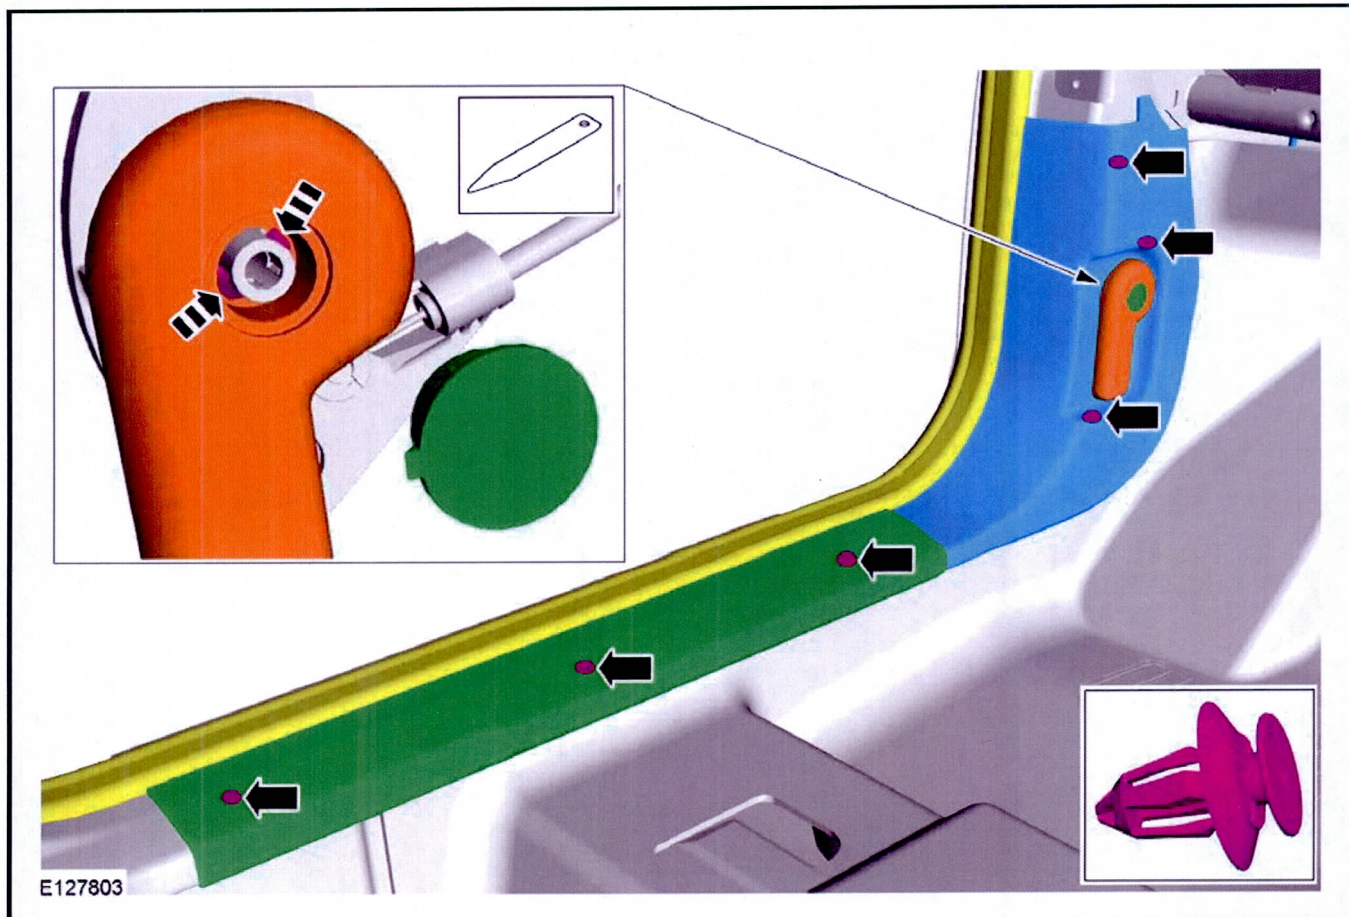

Figure 1 - Article 13-1-5
3. Position the left weather strip aside and remove the left side lower cowl trim panel and scuff plate. (Figure 1)